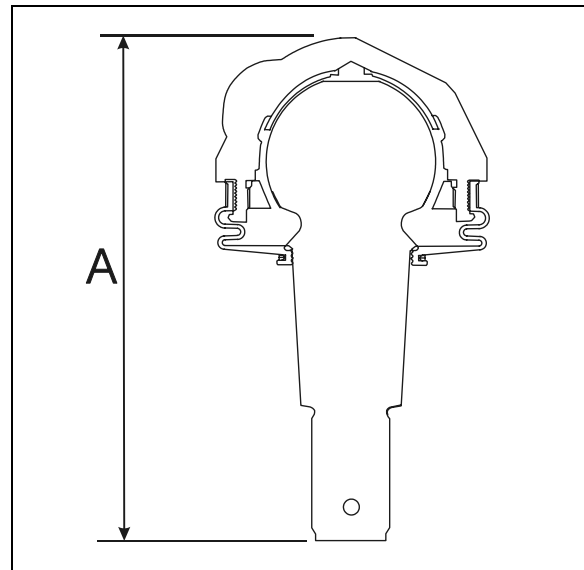

FIGURE 17: UPPER A-ARM CENTRAL BALL JOINT 16116
2. Using a caliper, measure dimension A on figure 17.